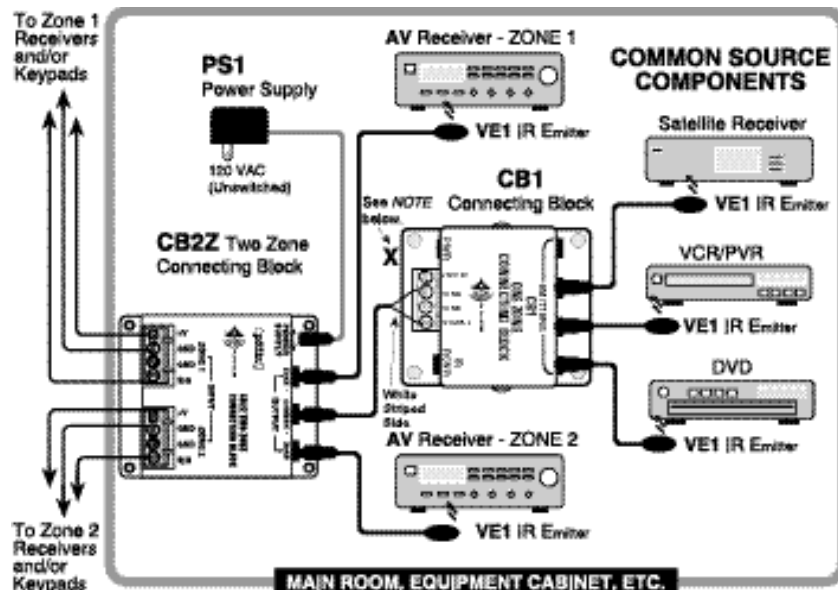

Fig. 4: Using **CB1** for Emitter Expansion
- Can be used with a **CB1** Connecting Block or an **ACB1** Amplified Connecting Block for COMMON emitter expansion. (See Fig. 4 & 5)
Fig. 4, below, shows the single common emitter port on the **CB2Z** connected to a **CB1** Connecting Block (or an **ACB1** Amplified Connecting Block). Also, if you need to drive more than 4 signal emitters from the common port, they must be driven by an **ACB1** Amplified Connecting Block.